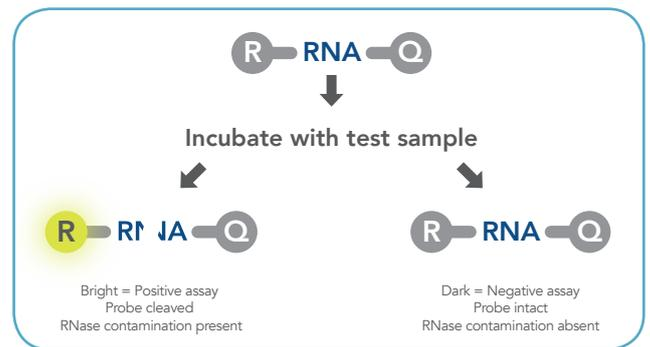

Figure 1. Nuclease detection by RNaseAlert Substrate.
The RNaseAlert Substrate is a synthetic RNA oligonucleotide that has a fluorescein (R) on one end and a dark quencher (Q) on the other end. Its sequence has been carefully optimized to react with a wide variety of ribonucleases. Intact, the substrate has little or no fluorescence. When cleaved by an RNase, the substrate fluoresces green (490 nm or UV excitation, 520 nm emission) and can be detected visually or by using a fluorometer (Figure 1).